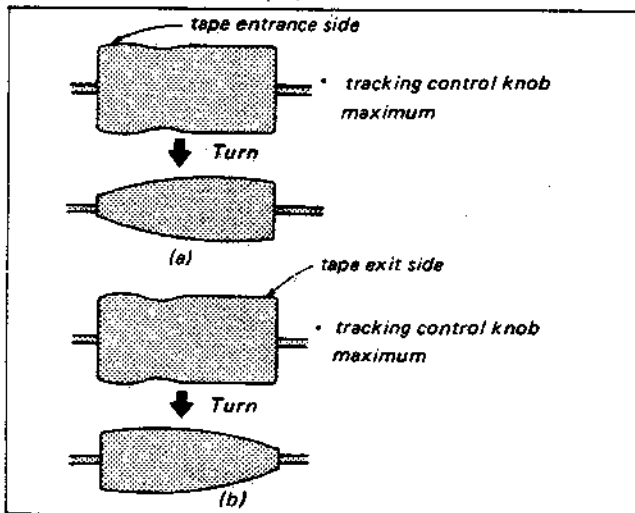

Fig. 4-3.
- 6) If the entrance waveform cannot be made flat, as shown in Fig. 4-3 (a), by turning the tracking knob, go through the "entrance side adjustment" described in 4-1-2; if the exit waveform shown in Fig. 4-3 (b) cannot be made flat, go through the "exit side adjustment" in 4-1-3.